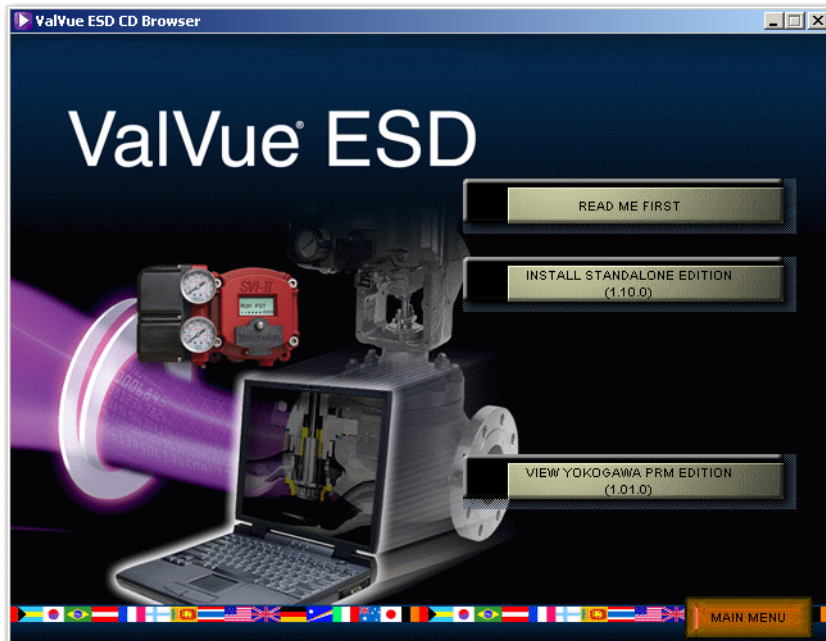

Figure 3 Software Choice
2. Select **INSTALL SOFTWARE** and a screen appears (Figure 3).